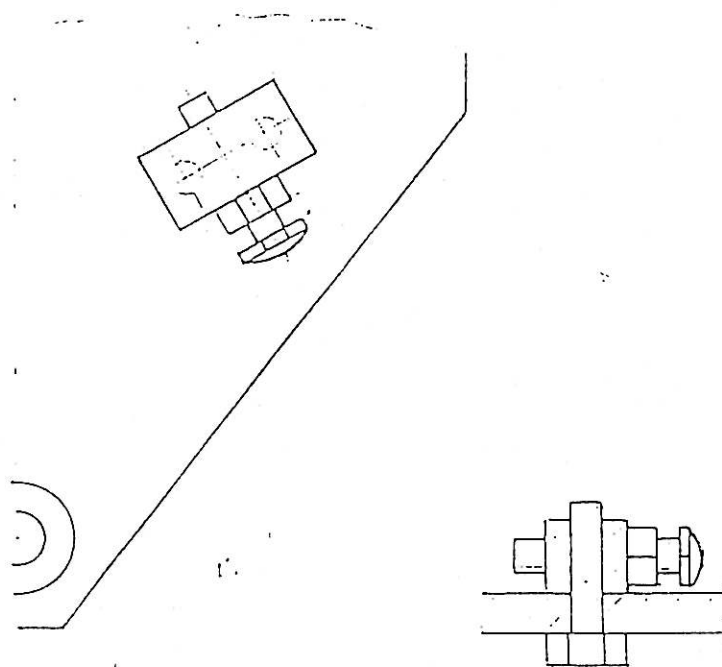

Fig.2. Way of assembling the new stops
- 5) Assemble the new stop as shown on Fig.2
- 6) Repeat the procedures (1) to (5) for the second stop using the inverted (mirror like) templet position.